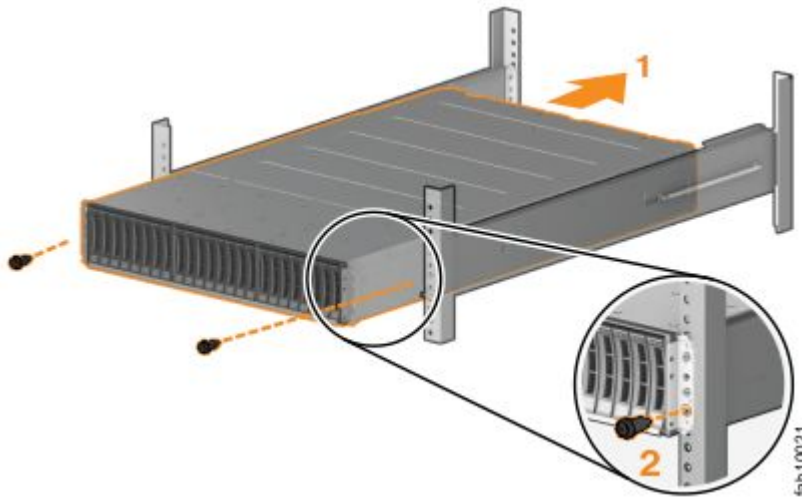
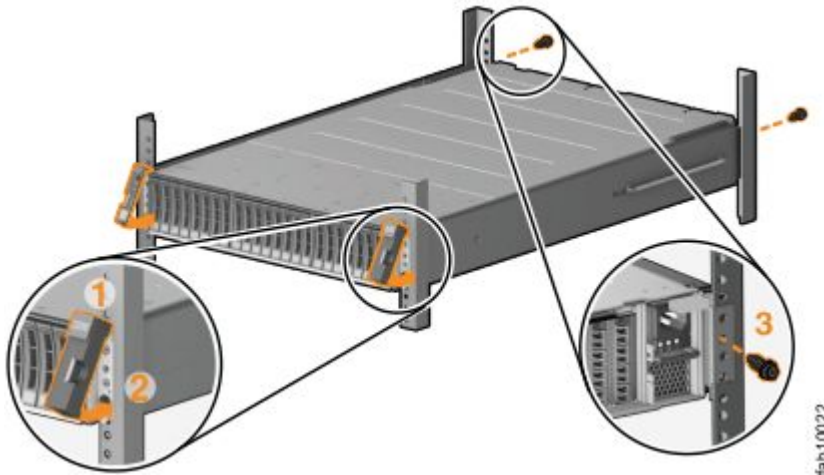

Figure 18. Inserting the enclosure
Figure 19. Reinstalling enclosure end caps
- Step 3. Carefully slide the enclosure into the rack along the rails until the enclosure is fully inserted (see Figure 18 “Inserting the enclosure” on page 20).
- Step 4. Secure the enclosure with screws in the rack mounting screw holes. (See Figure 18 “Inserting the enclosure” on page 20 and Figure 19 “Reinstalling enclosure end caps” on page 21.)
- Step 5. Reinstall the left and right end caps. (See Figure 19 “Reinstalling enclosure end caps” on page 21.) The left end cap has indicator windows that align with the status LEDs (light-emitting diodes) on the edge of the enclosure.